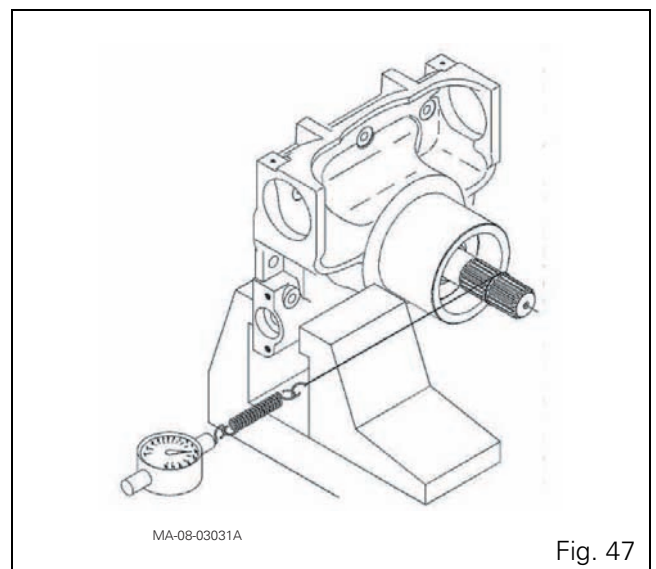

Fig. 47
**64.** Once the backlash between the pinion and the ring gear has been adjusted, measure the total preload  $T$  of the bearings (pinion-bevel ring gear system) using a torque gauge (Fig. 47). The measured value must remain within the following limits: